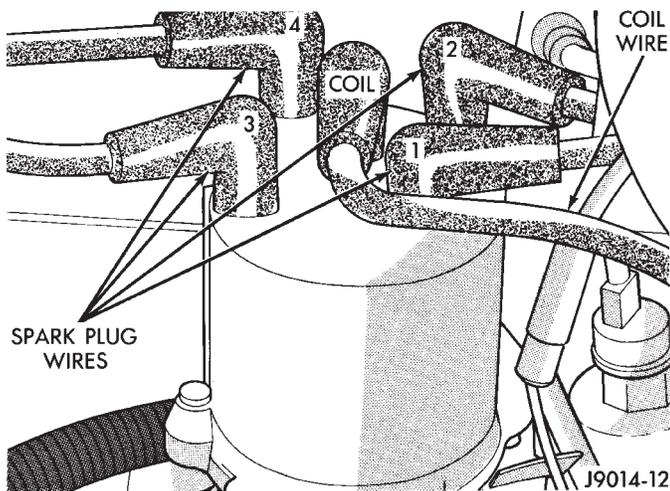

Fig. 10 Spark Plug Cable Positions—2.5L Engine
(4) Install the distributor cap (with the ignition cables) on the distributor housing (Fig. 10). Tighten distributor cap holddown screws to 3 N·m (26 in. lbs.) torque.
(5) Connect the distributor wiring harness to the main engine harness.